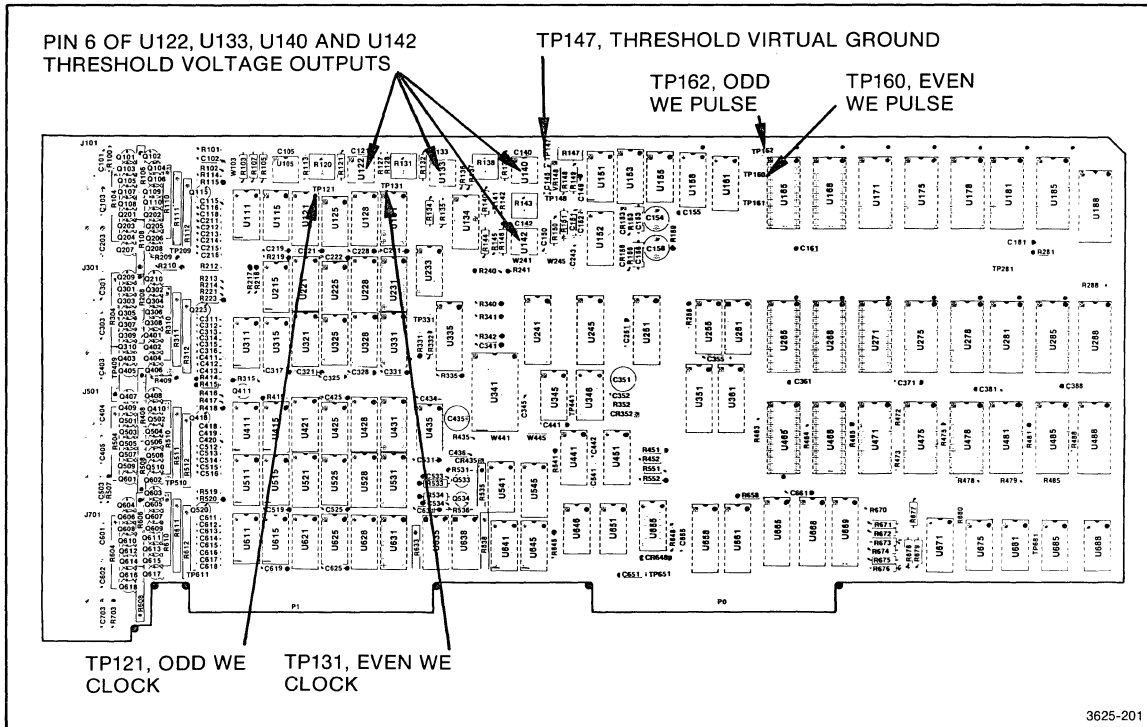

Figure 5-74. Test locations on the 91A32.
6. Connect the ground lead of the DMM to test point TP147 of the 91A32 (see Figure 5-74).
(14) Threshold Accuracy Check
3. Attach the probe for channel 1 of the oscilloscope to test point TP131 on the 91A32. Attach the probe for channel 2 of the scope to TP160 (see Figure 5-74). The ground leads of the probes can be attached at any ground test point on the 91A32.